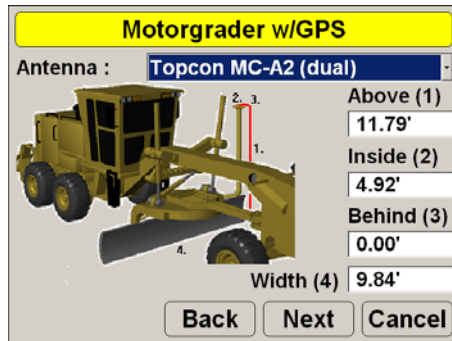

Figure 6-5. Enter MC-A2 Antenna Information During Machine Setup
1. During machine setup, select “Topcon MC-A2 (dual)” from the *Antenna* list on the *<machine type> w/GPS* dialog box (Figure 6-5 on page 6-9).